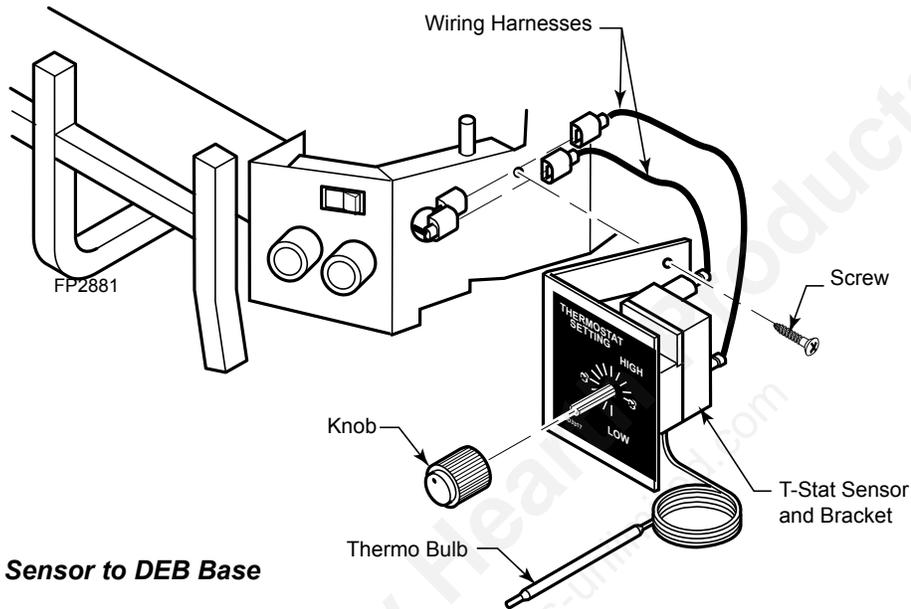

**Figure 19 -
2. Peel away the paper backing on the label. Align holes in label with holes on the bracket. Right side of label should flush with right side of bracket. *Figure 19*. Press label firmly and smoothly to bracket.